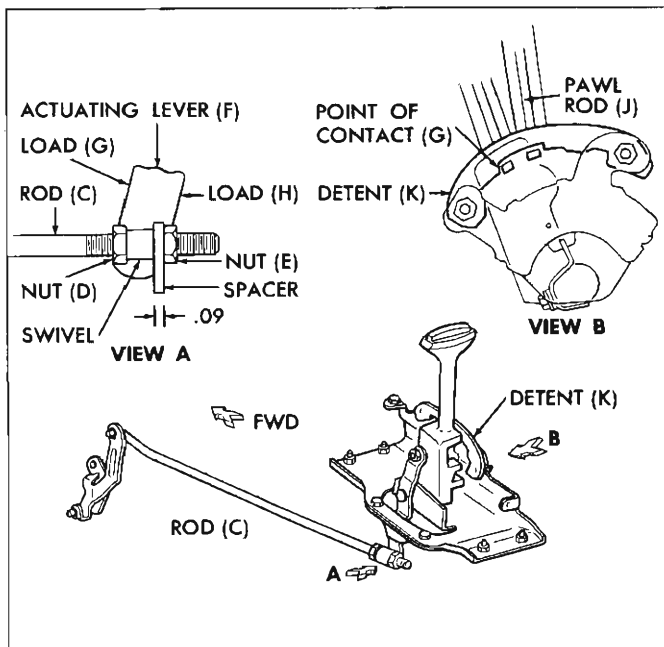

Fig. 6PG—Chevy II Floor Shift Linkage Adjustment
**Chevy II Linkage Adjustment (Fig. 6PG)**
Refer to Figure 6PG and the following procedure: